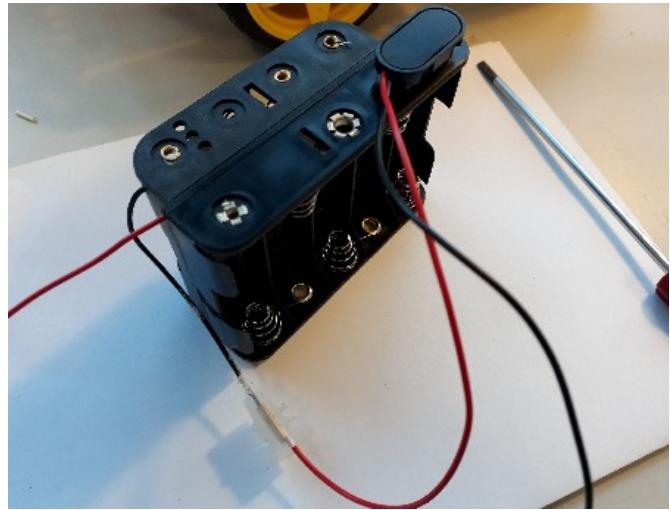

Figure 9: Connecting the battery pack to the battery clip.
Step 9: The black wire coming out of the x4 AA battery pack is a bit too long, cut it to around 7cm (if it has not already been cut). Once this is done, connect it to the red wire with from the battery clip, using the junction box. Then, clip the battery clip onto the x5 AA cell battery pack. This is all shown in figure 9.
Step 15: The threaded posts can now be attached to each corner of the base plate. The posts can be placed in all four corners of the base plate as shown in figure 9, and then secured in place with nuts as shown in figure 17.